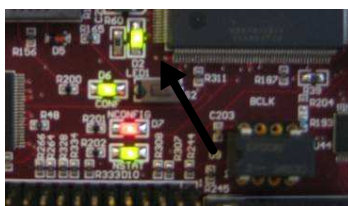

Figure 2-6. Start InMem indicator LED
“Start InMem”– This command button stops the input memory, runs the script specified in the “Stop/Start Input Memory Script Filename” textbox, and starts the input memory. The script loads the memory start address, and number of memory transfers per cycle. After the button is clicked, the LED (D2) to the left of the U12 FPGA should be green (ON). See Figure 2-6.